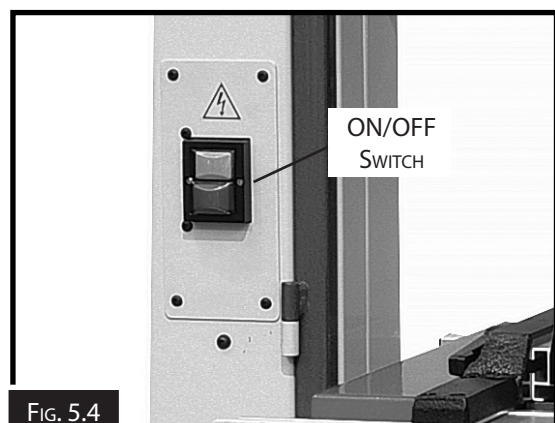

FIG. 5.4
**ON/OFF Switch:** Starts and stops the blade motor. (Fig. 5.4)